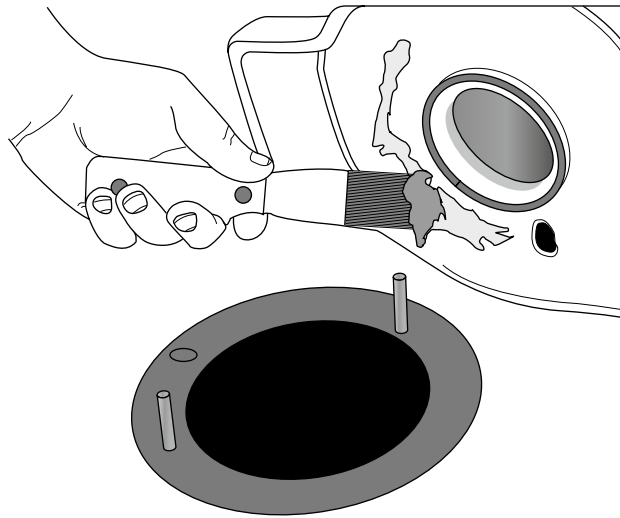

FIGURE 8-7:
4. Remove the toilet and as much of the (rather icky) wax ring beneath it as you can. (See Figure 8-7.)